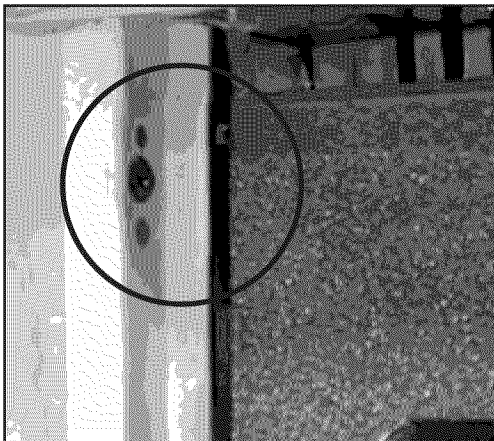

FIG. 1
- 3) When in place, drill 3/32" holes into cabinet frame through mounting holes in the oven side trim. See fig. 1.
- 4) Secure oven to cabinet with screws furnished as shown in figure 1 (uses 2 screws, 1 on each side, top oven only).